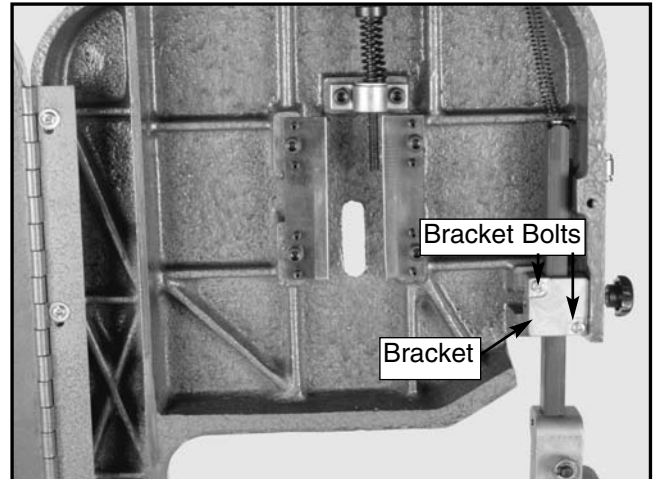

Figure 16. Guide post bracket (wheel removed).
1. Loosen the two bracket bolts securing the guide post bracket (#27) to the body casting. **Figure 16.**